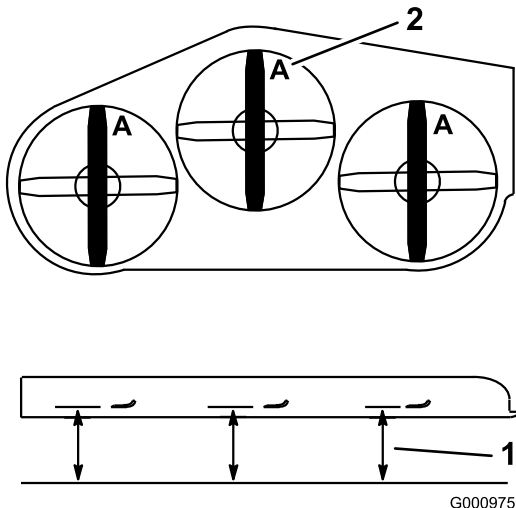

**Figure 103**
1. Inspect the cutting edges (Figure 103).
4. If you notice any cracks, wear, or a slot forming in this area, immediately install a new blade (Figure 103).